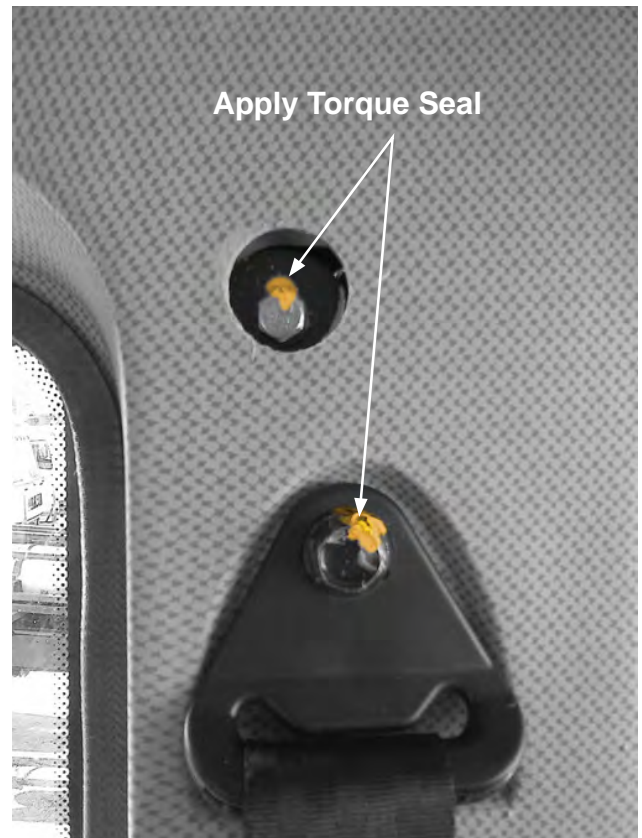

Figure 13-5
8. Apply torque seal to the bolts (see Figure 13-5).